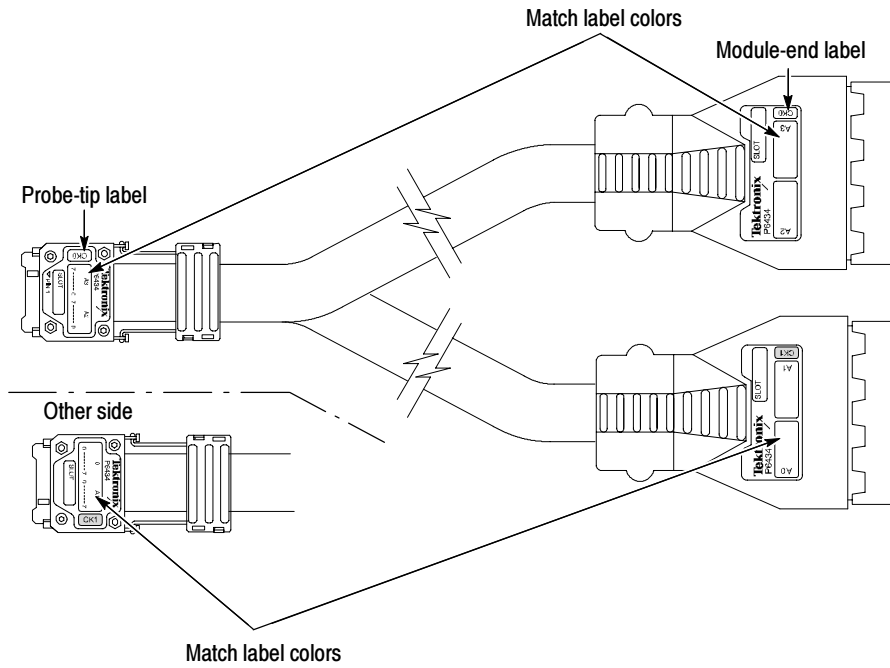

Figure 6: Applying labels to the module-end connectors
7. Apply the module-end labels to the module-end connectors (see Figure 6). To avoid mislabelling, hold the probe-tip connector in your hand and follow